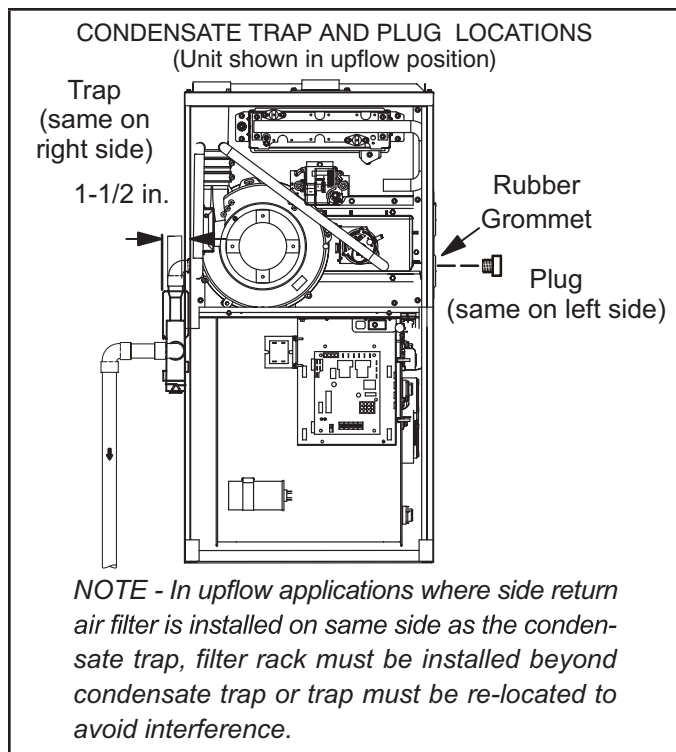
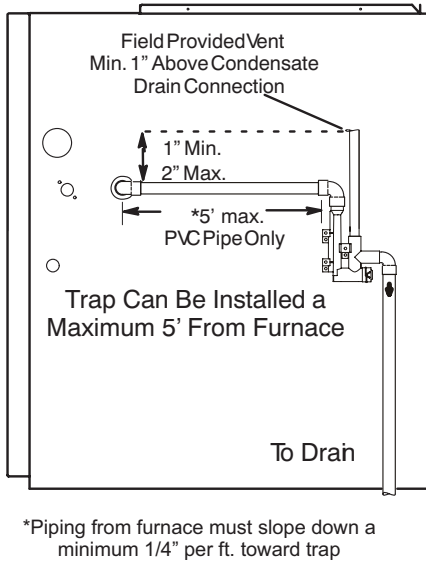
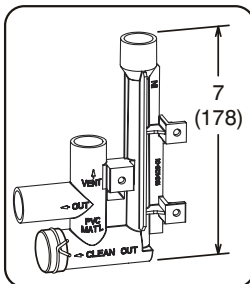

FIGURE 39
FIGURE 41
FIGURE 47
This unit is designed for either right- or left-side exit of condensate piping in upflow applications. In horizontal applications, the condensate trap must extend below the unit. An 8" service clearance is required for the condensate trap. Refer to FIGURE 39 and FIGURE 41 for condensate trap locations. FIGURE 47 shows trap assembly using 1/2" PVC or 3/4" PVC.
- 2 - Use a large flat head screw driver or a 1/2" drive socket extension and remove plug (FIGURE 39) from the cold end header box at the appropriate location on the side of the unit. Install provided 3/4 NPT street elbow fitting into cold end header box. Use Teflon tape or appropriate pipe dope.
- 3 - Install the cap over the clean out opening at the base of the trap. Secure with clamp. See FIGURE 47.
- 4 - Install drain trap using appropriate PVC fittings, glue all joints. Glue the provided drain trap as shown in FIGURE 47. Route the condensate line to an open drain. Condensate line must maintain a 1/4" downward slope from the furnace to the drain.